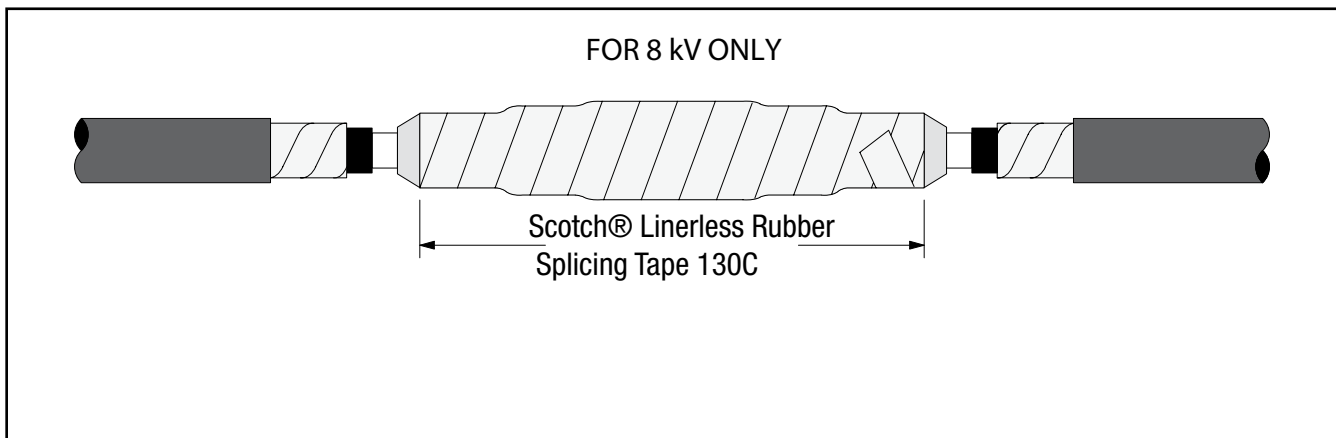

Figure 12
7.3 **FOR 8 kV RATING ONLY:** Apply 2 half-lapped layers of stretched Scotch® Linerless Rubber Splicing Tape 130C over the cold shrink insulator between the end tapers (Figure 12).